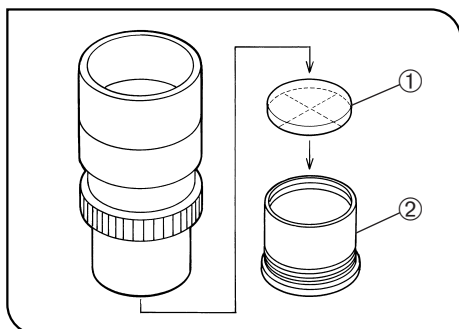

Fig. 24
4 Using Eyepiece Micrometer Disks (Fig. 24)
Following Fig. 24, turn the built-in micrometer mounting frame ② counter-clockwise to remove it from the eyepiece and place a micrometer disk ① into the mounting frame so that the surface with the model indication faces downward.